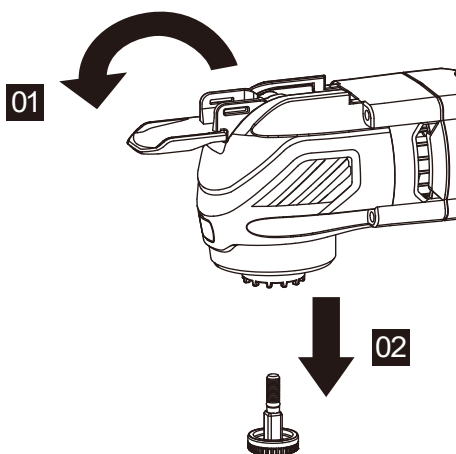

Figure 1-1
1. ASSEMBLING ACCESSORIES (SEE FIG. 1-1, 1-2 & 1-3)
Flip the tool-free blade change lever forward to the open position and take off the flange from the machine. (See Fig. 1-1)